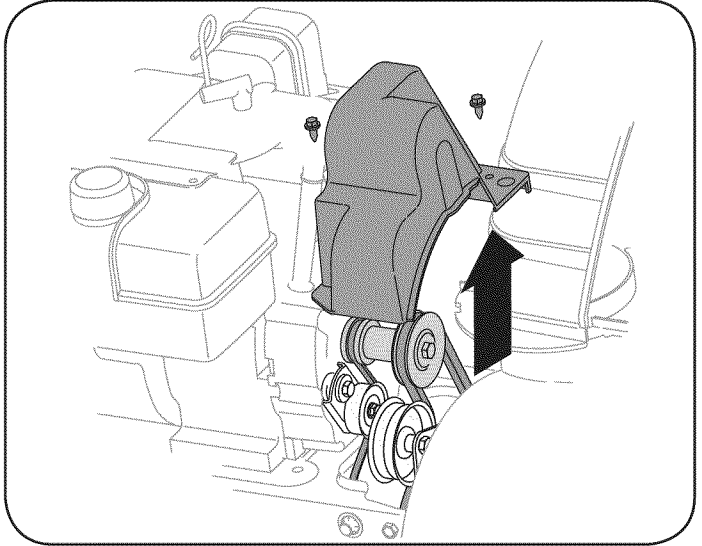

Figure 22
2. Remove the plastic belt cover on the front of the engine by removing the two self-tapping screws. See Figure 22.
2. Remove the plastic belt cover on the front of the engine by removing the two self-tapping screws. See Figure 22 on previous page.